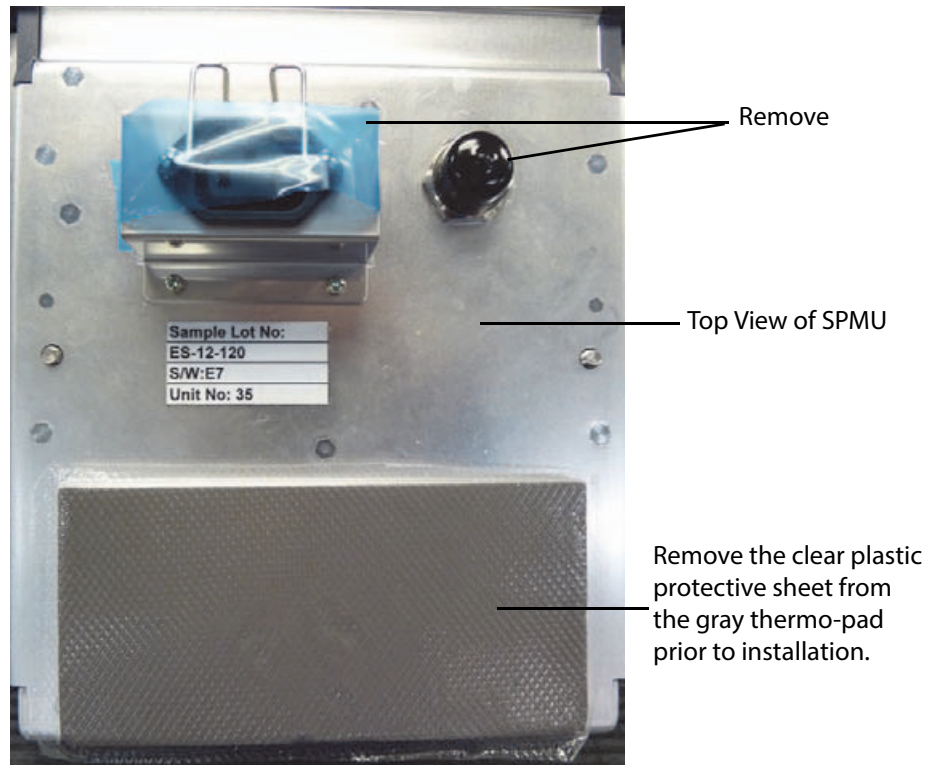

Figure 6.13 SPMU As Shipped
- 1 Remove the clear plastic sheath protecting the gray thermal pad on the replacement SPMU assembly prior to installing in the Stand. Refer to Figure 6.13 on page 44.